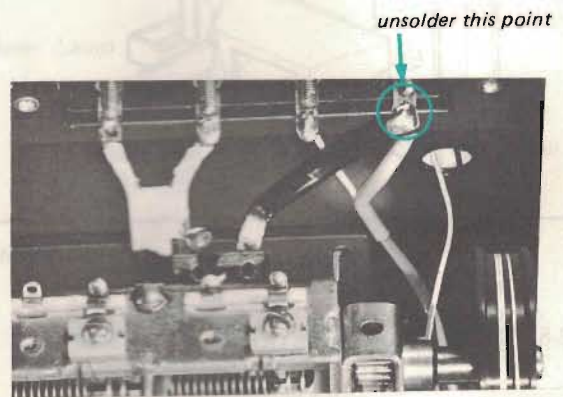

Fig. 2-16 Preparation for rear panel removal
2. Unsolder the braided wire connecting between the ground terminal and chassis as shown in Fig. 2-16.